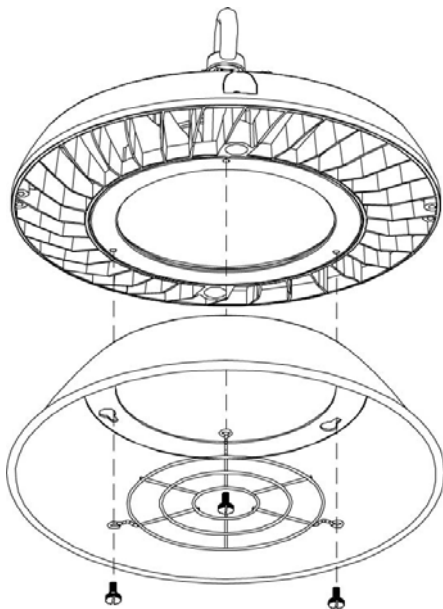

Figure 3
2.1. Remove screws on face of JEBL fixture to allow reflector and wire guard mounting hole slots to be secured to fixture surface (see Figure 3).